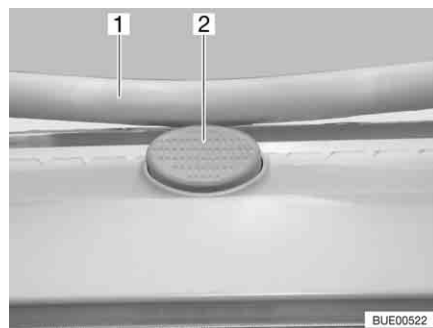

Fig. 76 Safety knob on the Heki skylight
- Press the safety knob (Fig. 76,2) and pull the bar (Fig. 76,1) down with both hands.
- Push the bar upwards with both hands until it is above the safety knob (Fig. 76,2).